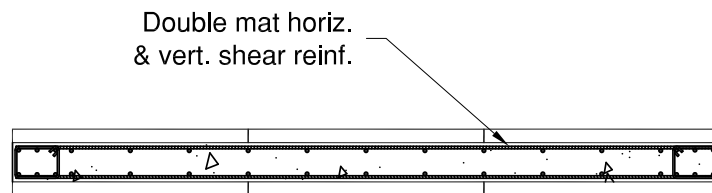

FIGURE 4: PLAN VIEW
2. Provide double mat of reinforcement for 12" LOGIX wall. See Figure 4.
3. Where more than one bar is shown use double mat for flexural reinforcement. See Figure 3 (or Figure 4 for 12" LOGIX).